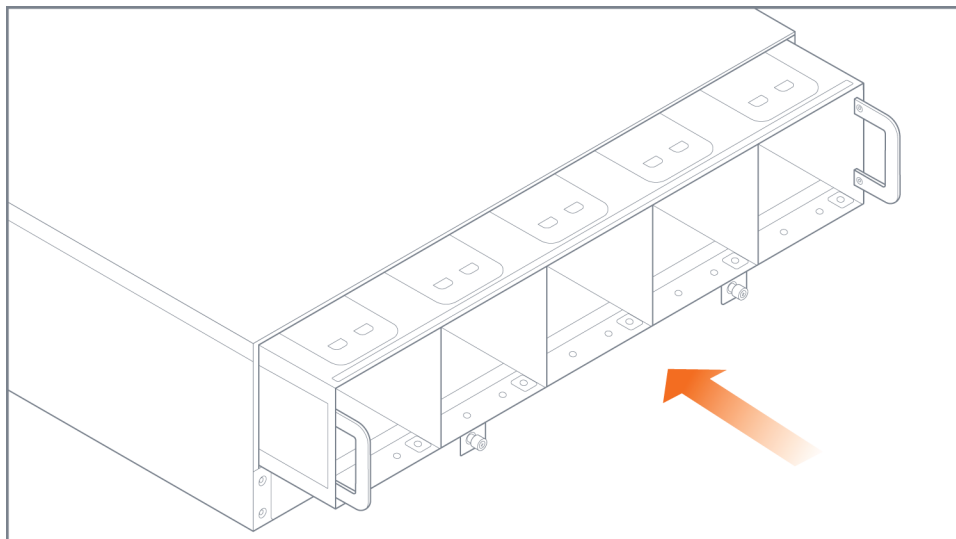

Figure 12 Fan Tray Insertion
2. Place the empty fan tray into the slot and slide it in. Refer to Figure 12 Fan Tray Insertion.